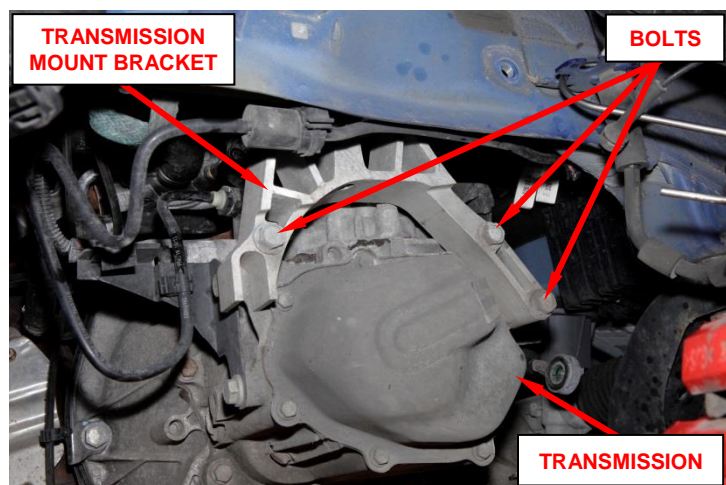

Figure 47 – Left Transmission Mount Bracket
50. Remove and save the three bolts attaching the left transmission mount bracket to the transmission (Figure 47).
51. Remove and save the left transmission mount bracket (Figure 47).